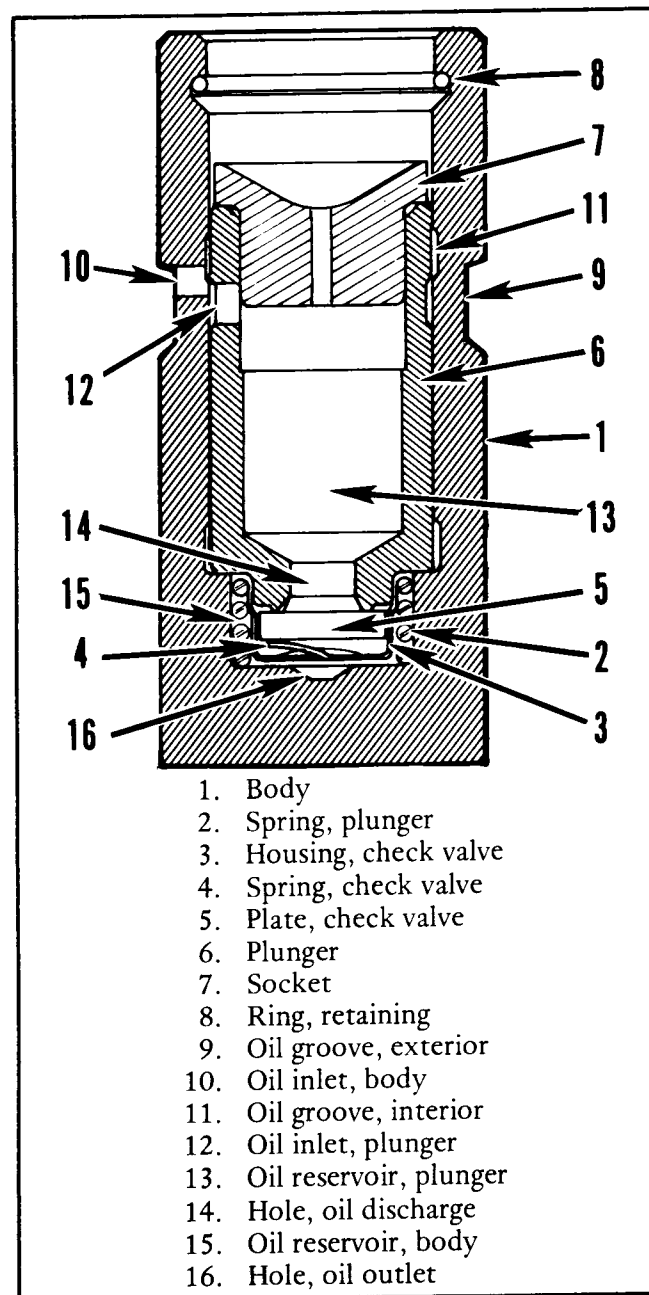

FIGURE 2-6. CUTAWAY VIEW OF HYDRAULIC VALVE LIFTER.
The barrel-type hydraulic lifter may be removed and replaced without complete disassembly of the engine as described in Section IV. The construction and operation of the tappets are described in paragraph 2-15 and Figure 2-6.
2-15. VALVE MECHANISM (See Figure 2-6).
b. The barrel-type hydraulic lifter (See Figure 2-6) consists of a steel body (1), an expanding spring (2), and a check valve assembly (3,4 and 5), a plunger (6), a socket (7) for pushrod end, and a retaining ring (8). A groove (9), around outside of body picks up oil under pressure from crankcase supply hole only when lifter is near outer end of its stroke so engine pressure will not "pump up" plunger and hold the valve off its seat. From the exterior groove oil is directed to interior body groove (11) through hole (10) and from the interior groove through the hole (12) to the reservoir (13). Oil is withheld from reservoir (15) by check valve plate (5) which is supported by spring (4) of housing (3). The check valve is opened by outward motion of the plunger under pressure of the expanding spring whenever a clearance occurs in the valve train. Thus the body reservoir is kept full of oil which transmits lifting force from body of plunger. The plunger and socket are fitted to the body selectively to permit a calibrated leakage so the lifter will readjust its effective length after each cycle, while cylinder valve is closed, to return "lash" in valve train to zero. This also permits contraction of the valve train length when the engine cools. Tappet bodies, plunger, and socket assemblies are not interchangeable, because of the narrow limits of permissible diametrical clearance, but retaining rings and expanding springs may be interchanged without ill effect.